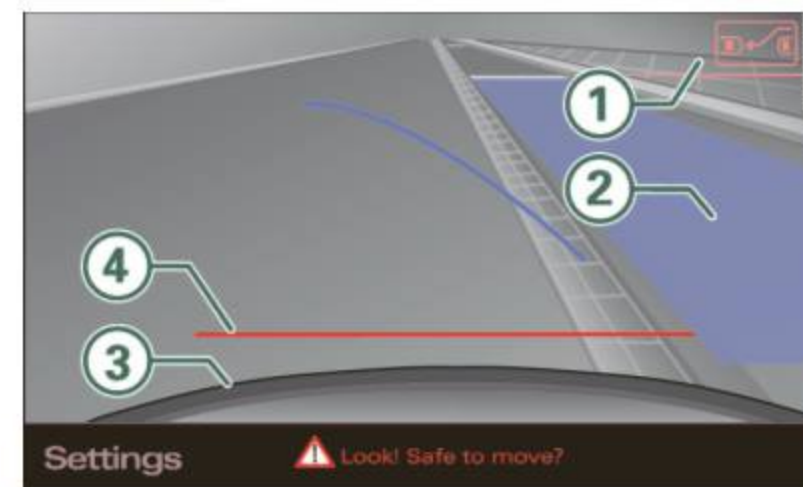
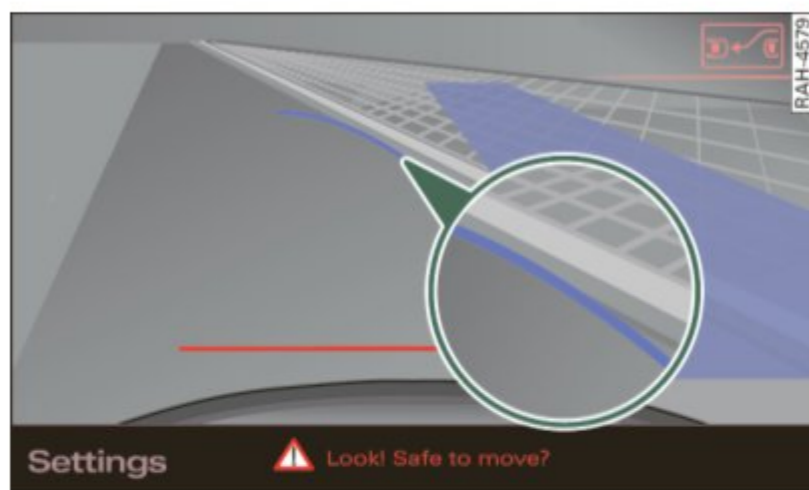

Fig. 159 MMI Display: blue surface in the parking spot
Fig. 160 MMI Display:
- Press the **Mode** ⇒ *page 163*, fig. 159 ① control button on the MMI control console. Parking mode 2 appears.
- Back up in reverse gear and align your vehicle so that the blue area ② borders on the rear end of the vehicle or on the parking spot line. The blue area represents an extension of the vehicle's outline by approximately 16 ft (5 m) to the rear. The long side of the blue area should be on the curb. The entire blue area must fit into the parking spot.
- Back into the parking spot until the blue curve touches the curb ⇒ fig. 160. Stop the vehicle.
- Continue to back up into the parking spot until the vehicle is parked parallel to the curb. ③ marks the rear bumper. You should stop driving in reverse as soon as and no later than when the red orientation line ④ abuts an object ⇒ ⚠! Keep an eye on the front of your vehicle while doing this ⇒ ⚠.
When there is an obstacle (such as a wall) next to the parking spot, choose a spot with more space on the sides. Position the long side of the blue area so that there is sufficient space from the curb. The area must not be on the curb. You will also need to start turning the steering wheel much earlier. There should be a sufficient amount of space between the curb and the blue curve, and the blue curve ⇒ fig. 160 must **not** touch the curb.